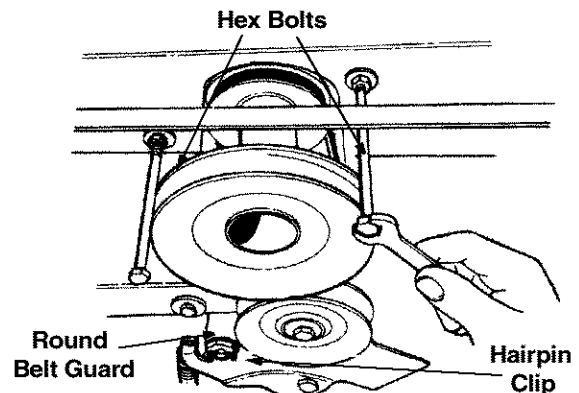

Figure 8
- Working beneath the tractor, remove the hairpin clip securing the round belt guard to the idler. See Figure 8. Remove the two hex bolts which act as belt keepers by the engine pulley.
- Replace the hex bolts (belt keepers) by the engine pulley. Refer to Figure 8.